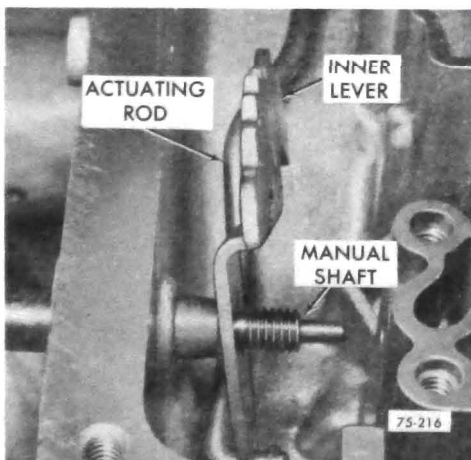

Figure 75-284
2. Install manual shaft through case and range selector inner lever. See Figure 75-284.